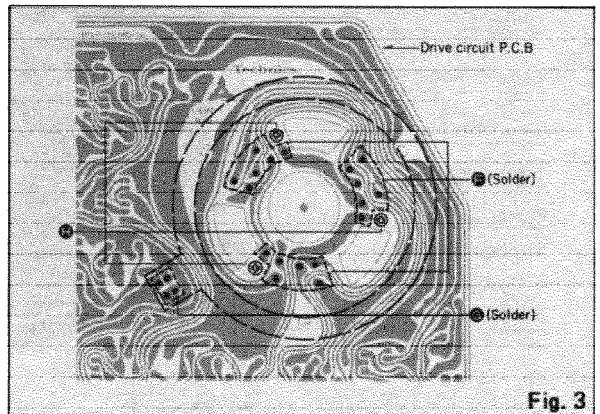

Fig. 3
6. Disconnect 18 soldered parts **F** of the stater coil and 4 soldered parts **G** of the F.G detector coil as shown in Fig. 3.
7. Remove 3 screws **H** of the stater frame ass'y as shown in Fig. 3.